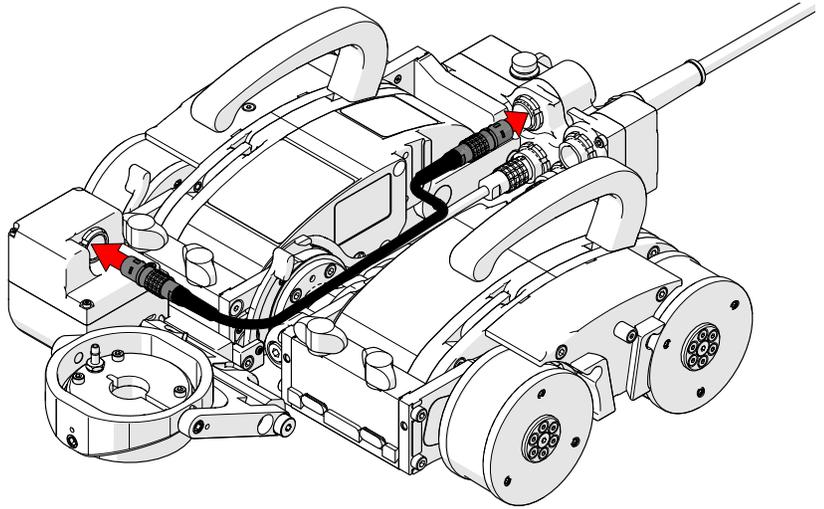

Fig. 19 - Connect auxiliary cable
8. Connect the auxiliary cable to the actuated probe lift (Fig. 19).
9. Connect the auxiliary cable to the auxiliary port of the **NAVIC** umbilical (Fig. 19).